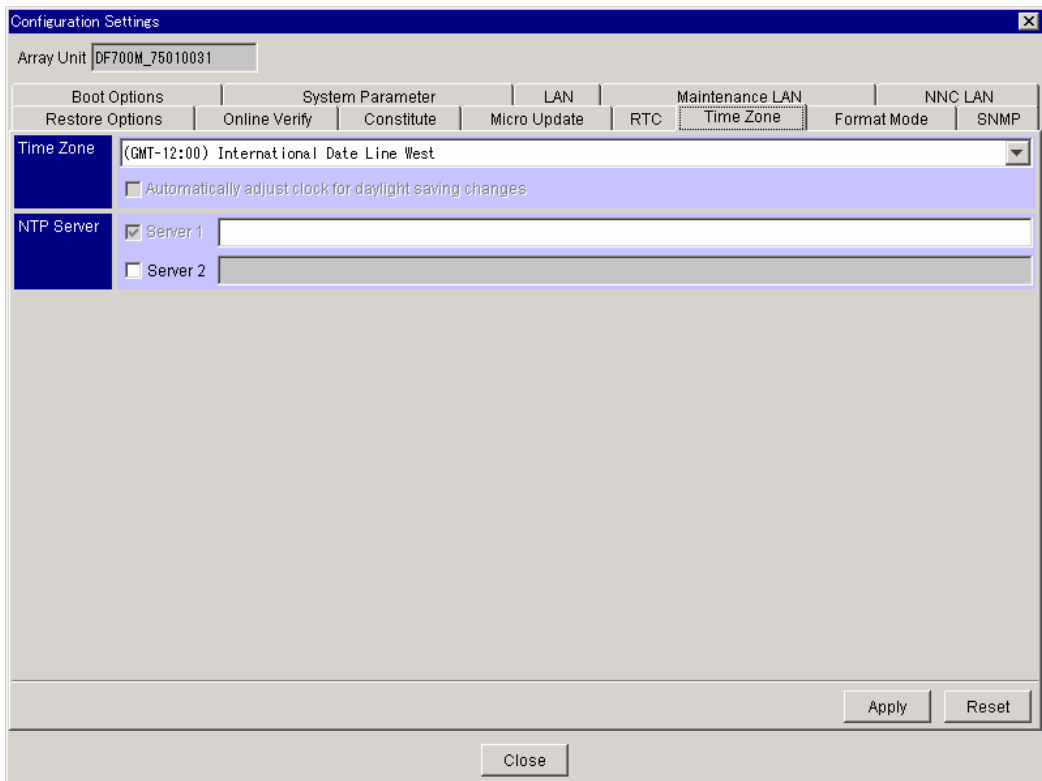

Figure 5.67 Setting Time Zone
- Click the **Configuration Settings** icon () in the tool bar. Click the **Time Zone** tab (see Figure 5.67). For a detailed description of the **Time Zone** tab, refer to section 5.1.15.